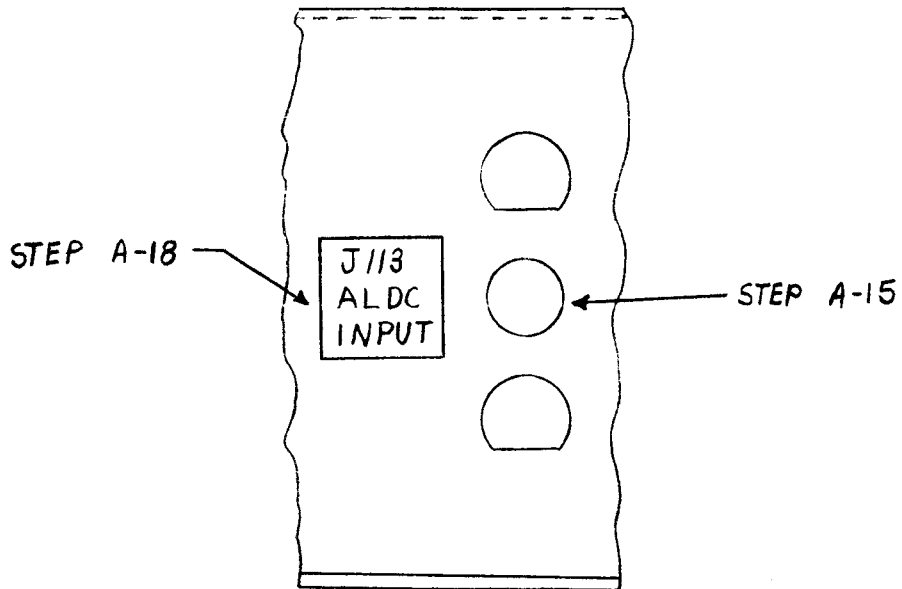

FIGURE 3*
15. Mount the RF connector (Item 2) in the hole found between J111 and J112 as shown in Figure 3. Mount the solder lug (Item 16) over the rear of the RF connector. Proceed now to tighten the locking nut by use of the 1/2 inch open end wrench.
18. Affix instruction nameplate (Item 15) directly to the left of the connector which has just been installed (Refer to Figure 3).